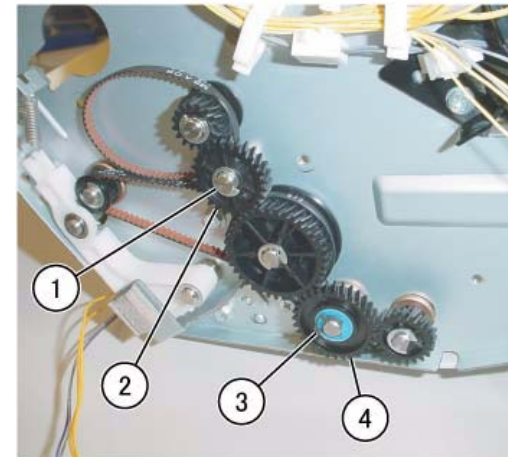

Figure 3 Removing the Gear
8. Remove the Gear (Figure 3):